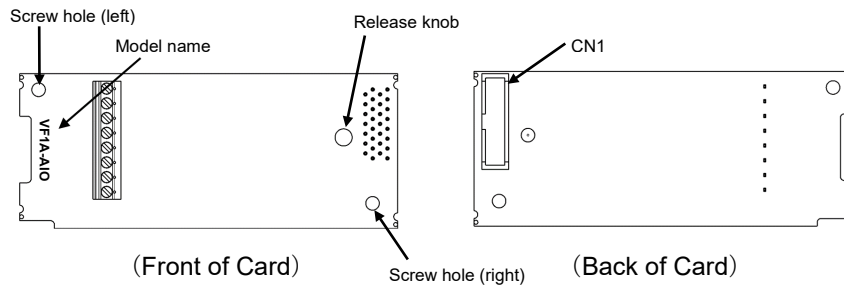

Figure 2.1 Names of Parts on AIO Interface Card (VF1A-AIO)
- (1) An AIO interface card and two screws (M3 × 8) are contained in the package.
- (2) The AIO interface card is not damaged during transportation--no defective parts, dents or warps.
- (3) The model name "VF1A-AIO" is printed on the AIO interface card. (See Figure 2.1.)